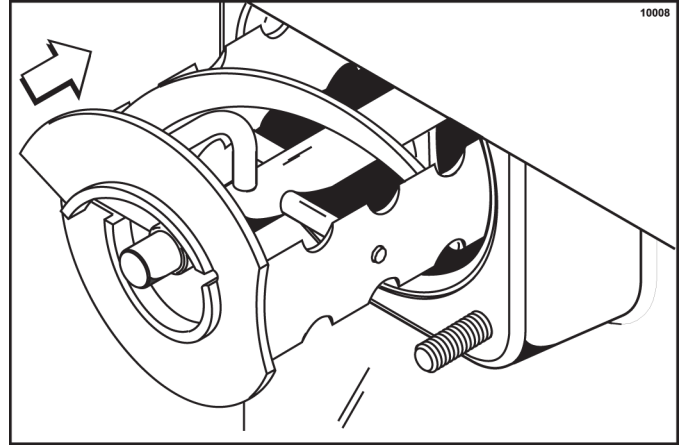

Figure 6-6
5. Hold the blades on the beater assembly. Insert the back of the beater assembly into the freezing cylinder and connect the drive hole with the driveshaft. (See Figure 6-6.)